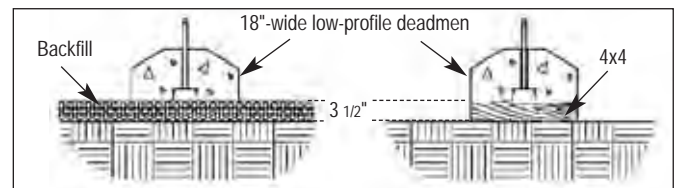

FIGURE 2-3
2.4.3. If Xerxes 18-inch wide low-profile deadmen are used as a construction guide, they may need to be elevated. This can be accomplished by putting 3-1/2 inch of backfill or a wood 4x4 (or equivalent) underneath, so that the top of the deadmen are 12 inches off of the bottom of the excavation. (See FIGURE 2-3.)